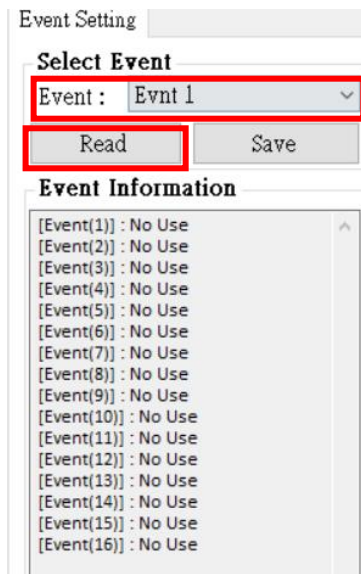

Figure 5.10.5
D. First select Event and press “Read” as shown in Figure 5.10.5